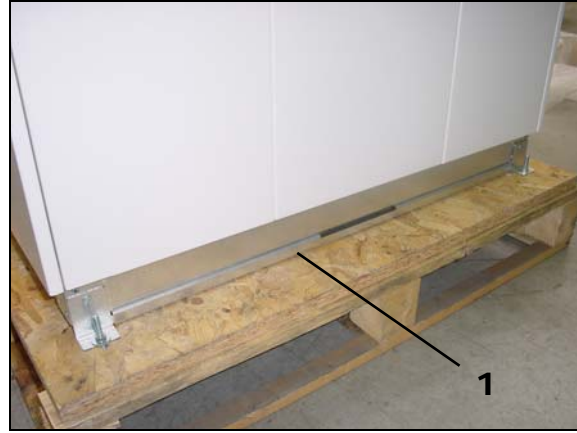

Figure 4-4
6. Operating from the front side, with one person at each corner, tilt the machine frontally until the rear bracket (1) (Figure 4-4) is free and can be removed by a third person.